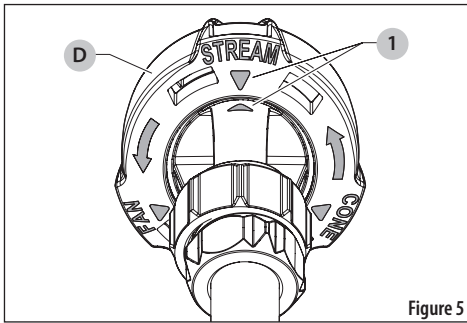

Figure 5
1. Rotate 3-in-1 nozzle (D) to desired nozzle position.
2. Nozzle end will snap into place as arrow indicators (1) become aligned. See Figure 5.